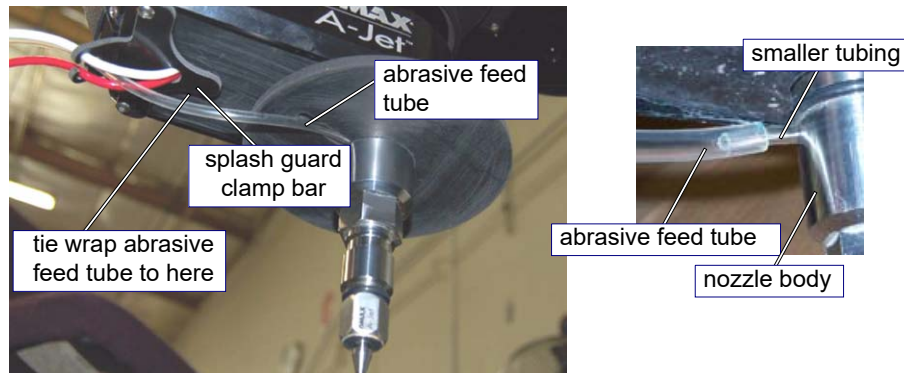

Figure 110
16. Secure the **splash guard clamp bar** using the two M4 screws (Figure 110).